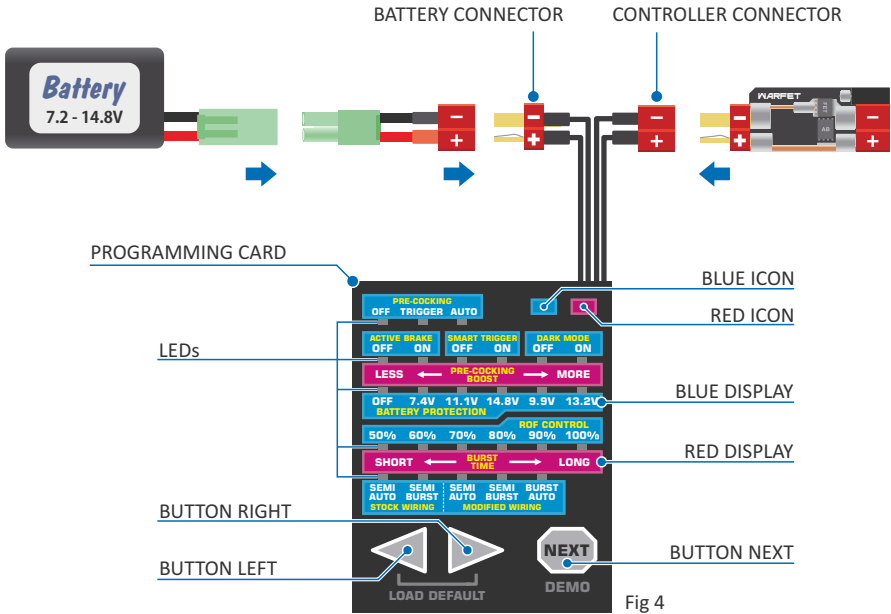

Fig 4
1. Connect the battery to the Programming Card. The LEDs light on and start blinking (Fig 4).